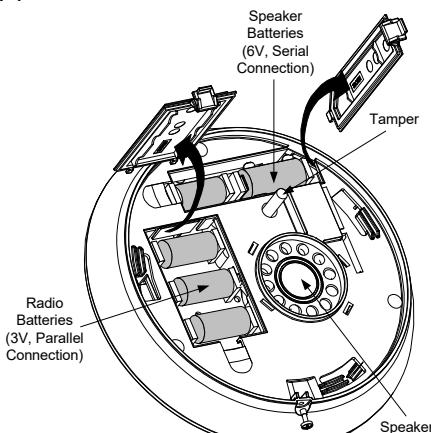

Fig. 3
5. Insert the supplied batteries into the battery chambers (speaker and radio) paying attention to the polarity (Fig 3).
4. Insert two speaker batteries into the batteries chamber (Fig. 3).
Power Supply	5 X CR123, 3V Lithium Battery (3 batteries for the Radio Transceiver, 2 batteries for the Speaker (see Fig. 3 on page 4))